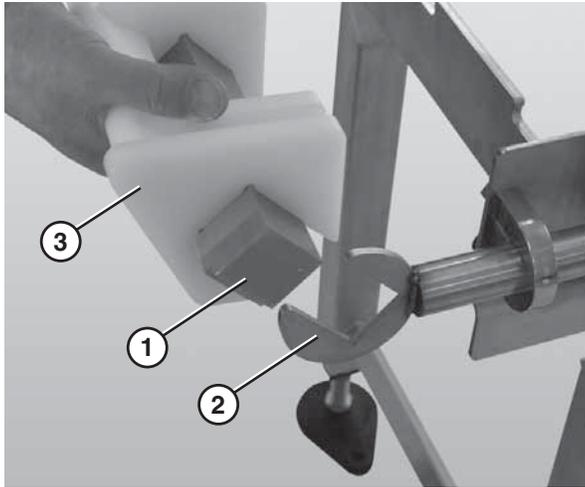

Figure 75
1. Slide the nose bar drive or transfer post (Figure 75, item 1) out of the nose bar drive weldment or idler hands (Figure 75, item 2).
2. Remove the nose bar tracking pucks (Figure 75, item 3), if applicable.